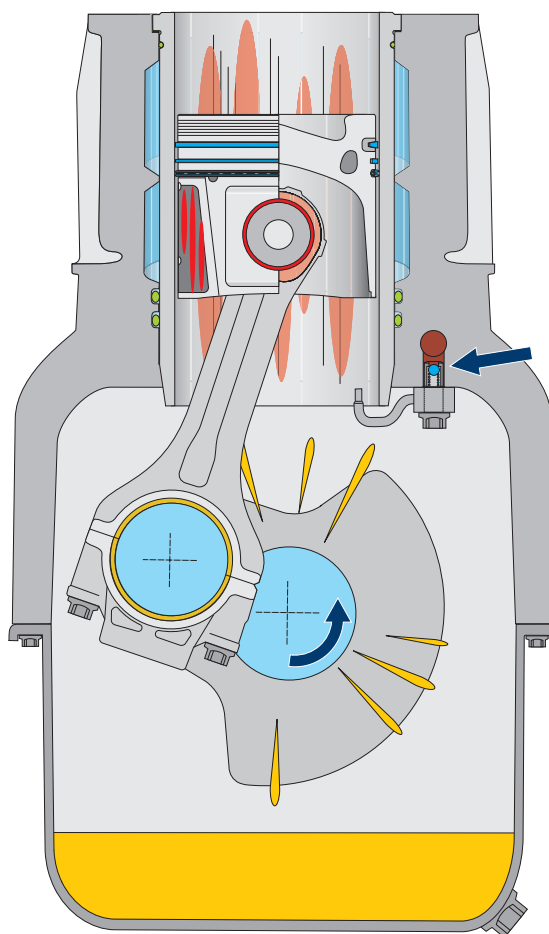

Fig. 1: poor lubrication with excessive idle operation
- Not enough oil emerges from the anti-friction bearings, with the result that too little oil is sprayed onto the cylinder wall. Dirt and abrasion are not washed off, which causes considerable premature wear or even damage (Fig.1).
- The pressure valve (arrow in Fig. 1) for the piston cooling spray does not open at idle. The piston is not cooled and a lack of oil droplets leads to poor lubrication at the gudgeon pin and the small end bush.